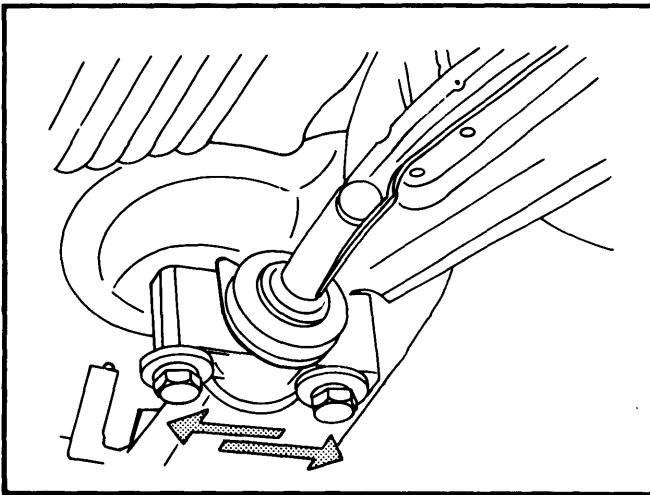

Fig. 4 924 Caster Adjustment Location
**924** — Adjust caster by moving the rear of suspension control arm from side-to-side. See Fig. 4.